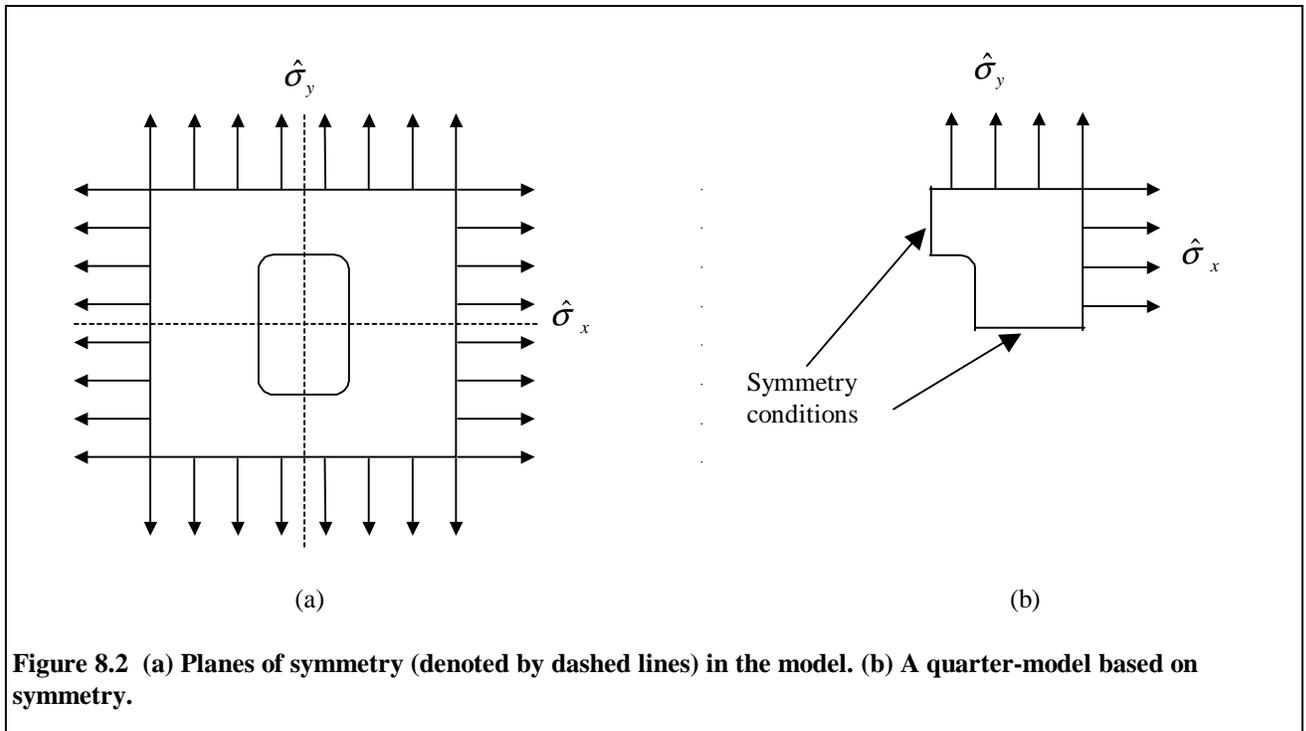

Figure 8.2 (a) Planes of symmetry (denoted by dashed lines) in the model. (b) A quarter-model based on symmetry.
- 2b. Add four lines as shown in Figure 8.2 below